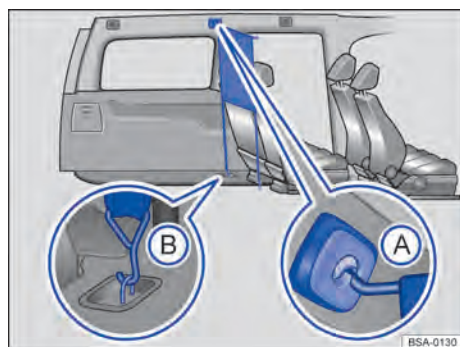

Fig. 135 Behind the second row of seats: Fitted net partition.
- Hook the net partition into the *rear left* holder in the roof → Fig. 135 (A). Ensure that the transverse rod is pulled up over the upper position so that it latches securely in the slots.
- Hook the net partition into the lower fastening rings → Fig. 135 (B).